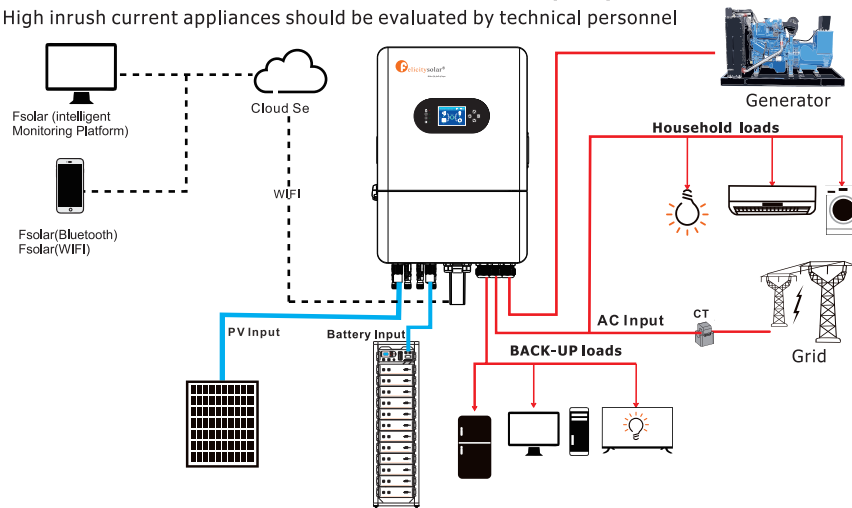

Figure 2.2-1 Block diagram of hybrid solar inverter system
**Please refer to the Figure 2.2-1 for details.**